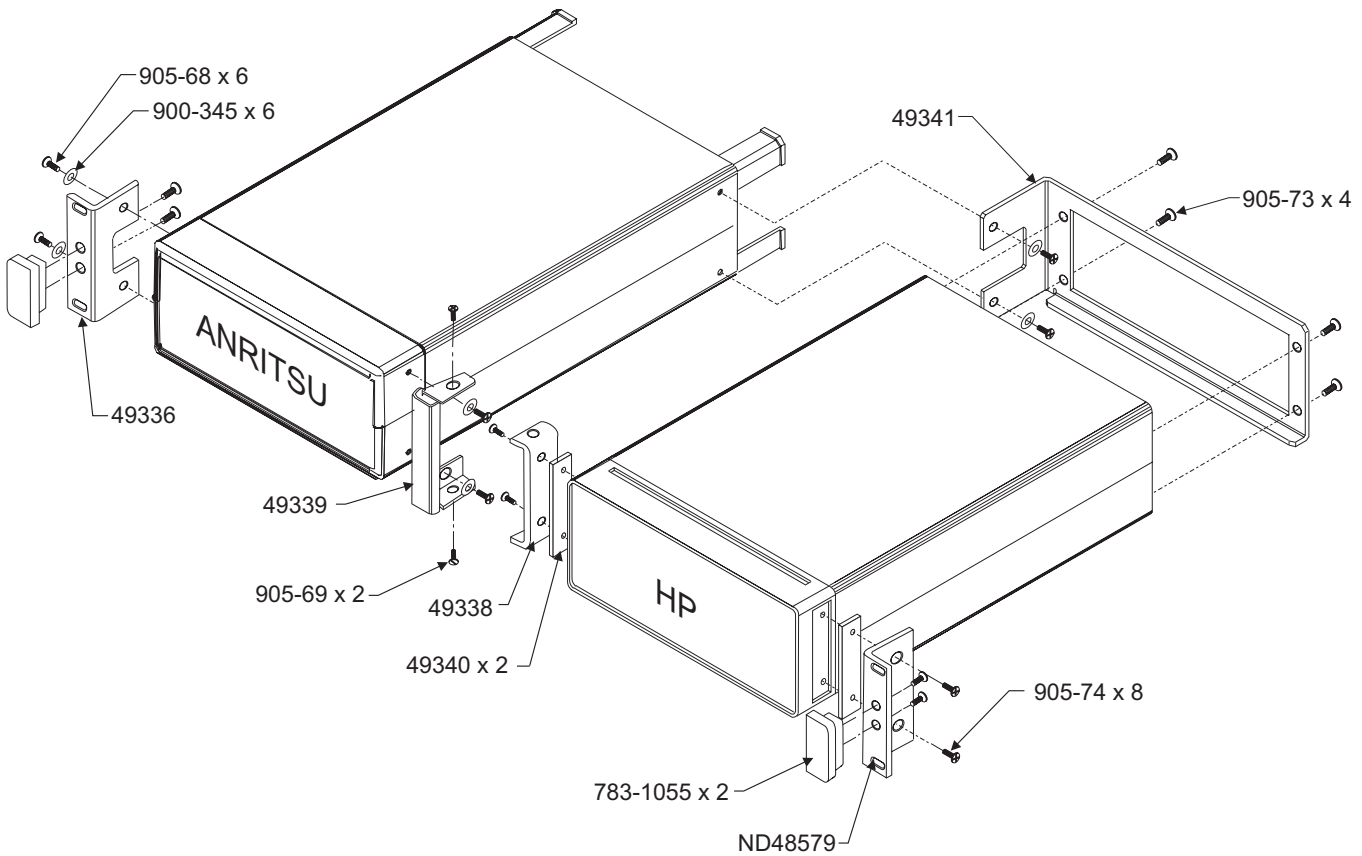

Figure 1. Mounting Rack Assembly
Step 2. Secure the two 783-1055 handles to 49336 and ND48579 using four 905-74 screws. Face the rounded corners toward the outside edge of the rack ears (Figure 1).